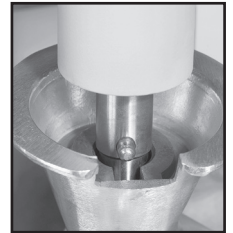

fig. 9-2
2. Slide the agitator slowly upwards onto the planetary shaft, fitting the shaft pin through the slot in the agitator (see fig 9-2).